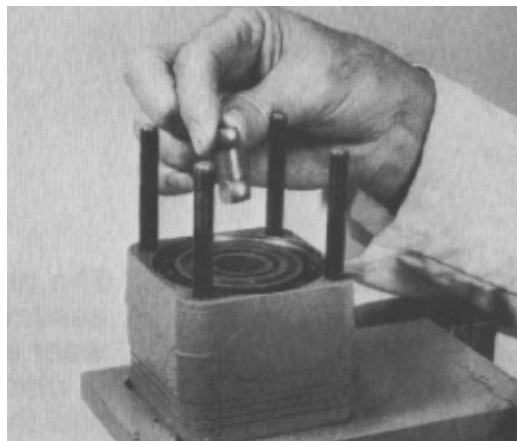

Figure 59
22. Remove the drive link from the unit (Fig. 59).